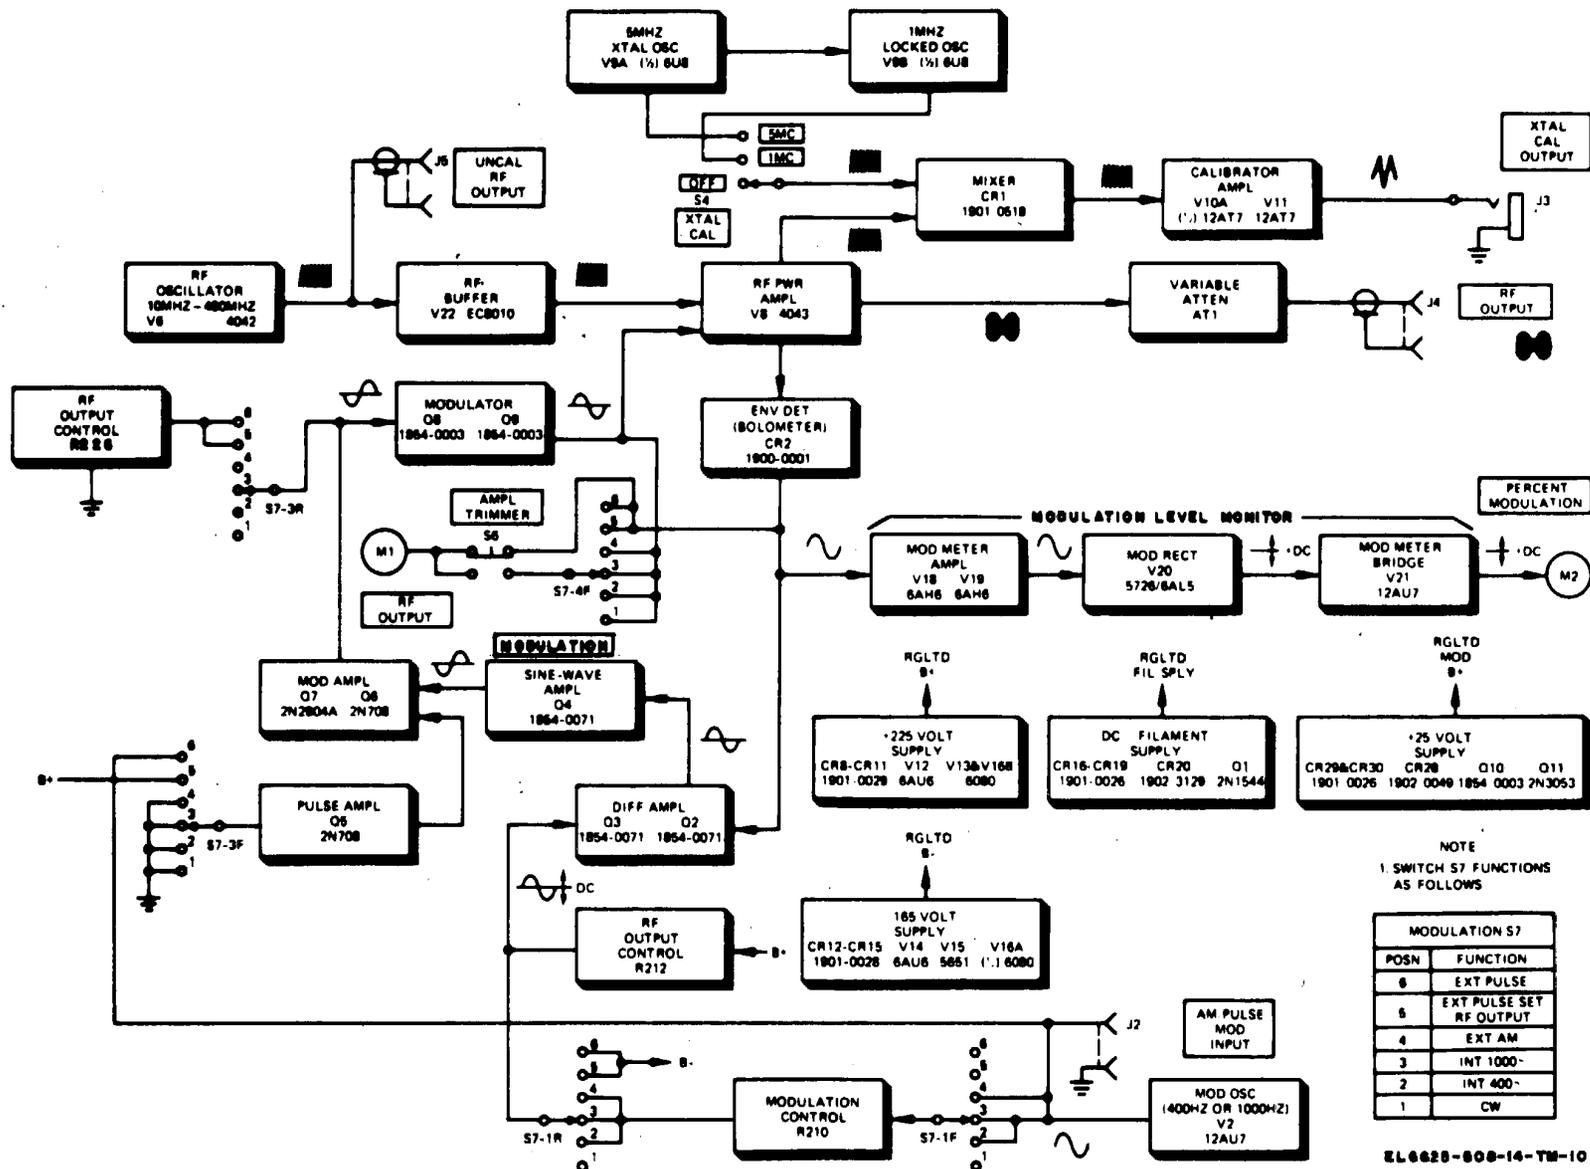

Figure 5-1. Generator, Signal TS-510B/U, block diagram.
*a. Signal Generator.* The TS-510B/U is a very-high-frequency rf signal generator employing a master oscillator-power amplifier design. The signal generator is used to test, evaluate and align radio receivers, filters, amplifiers, and other similar electronic networks. Signal paths and waveforms are shown on the block diagram figure 5-1, and are discussed in *b* through *i* below. For complete circuit details refer to over-all schematic diagram, figure FO-2.
Paragraphs 5-4 through 5-21 present a detailed analysis of each stage. To understand the general over-all function of all circuits in this equipment, periodic reference should be made to the system block diagram shown in figure 5-1, and to the complete schematic diagram (fig. FO-2).